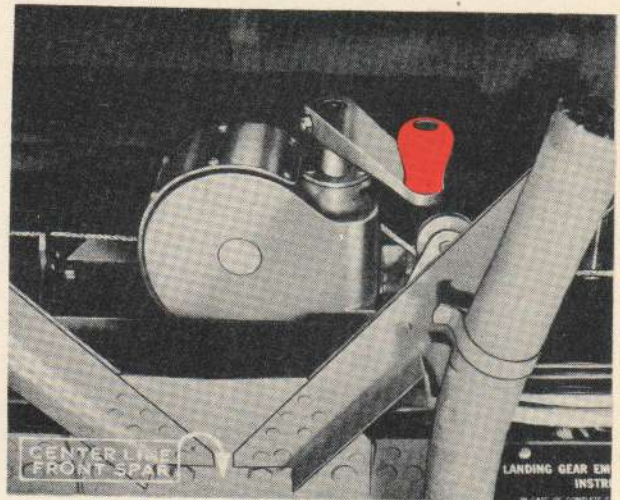

Figure 43—Main Landing Gear Emergency Lowering Crank
(2) Turn the emergency hand crank (figure 43) clockwise until the main gear is down and locked. (Approximately 30 turns are required.) This crank is located on the forward side of the front spar and may be reached while standing on the extreme forward end of the bomb bay catwalk.